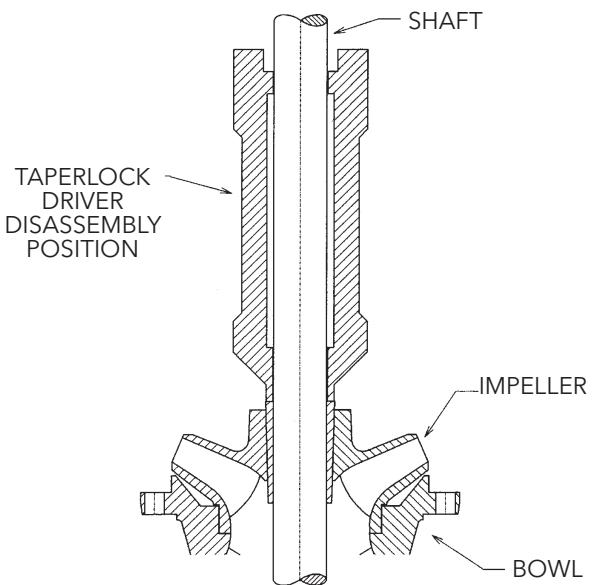

Figure 22
5. Insert a screwdriver into the slot in the taperlock (677) to spread the slot and slide the taperlock over the pump shaft. Hold the impeller against bowl and slide the taperlock into the impeller hub. **Be sure the taperlocks have been cleaned and are dry.**
6. Hold impeller firmly against the suction bowl/bell and drive the taperlock into place with a taperlock driver, (See Figure 22). After the impeller is secured in position, the top end of the taperlock should be $1/8"$ above the impeller hub.
7. Slide intermediate bowl (670) onto shaft and secure with capscrews provided.